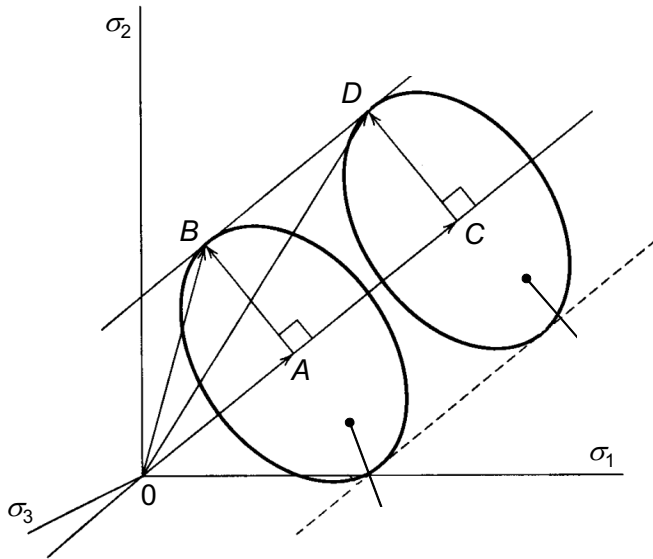

Figure Q7
7. The hydrostatic stress component in Figure Q7 is indicated by: